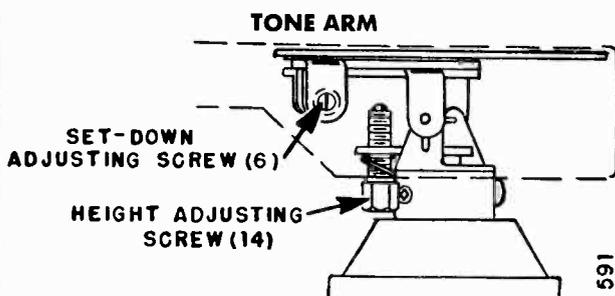

Figure 5. Set-Down and Height Adjustments.
Adjustment of the set-down point, is made by adjusting the set-down adjusting screw (6). See Figure 5. The tone arm will automatically set-down properly on 7-inch or 12-inch records if the set-down adjustment is made properly on a 10-inch record. The set-down adjusting screw is accessible through the hole in the right side of the tone arm. Turning this screw in moves the set-down point of the tone arm closer to the centerpost, and turning this screw out moves it away from the centerpost. Make this adjustment as follows:
This record changer is so designed that the tone arm will clear the bottom record of a stack to be played if the needle is $\frac{1}{4}$ " above the changer pan when the changer is not in change cycle and $1\frac{3}{8}$ " above the turntable during change cycle. See Figure 6. With proper tone arm height setting, the tone arm will lift high enough during change cycle to clear a complete stack of records of any type on the turntable. This stack may consist of as many records as specified on page 1. Make this adjustment by placing the size selector knob in the "10" or "12" inch position, check the distance between the needle and the changer pan with the changer out of change cycle. If the needle is more than $\frac{1}{4}$ " above the pan, turn the lift adjusting screw (14, Figure 5) counterclockwise; if less, turn clockwise.